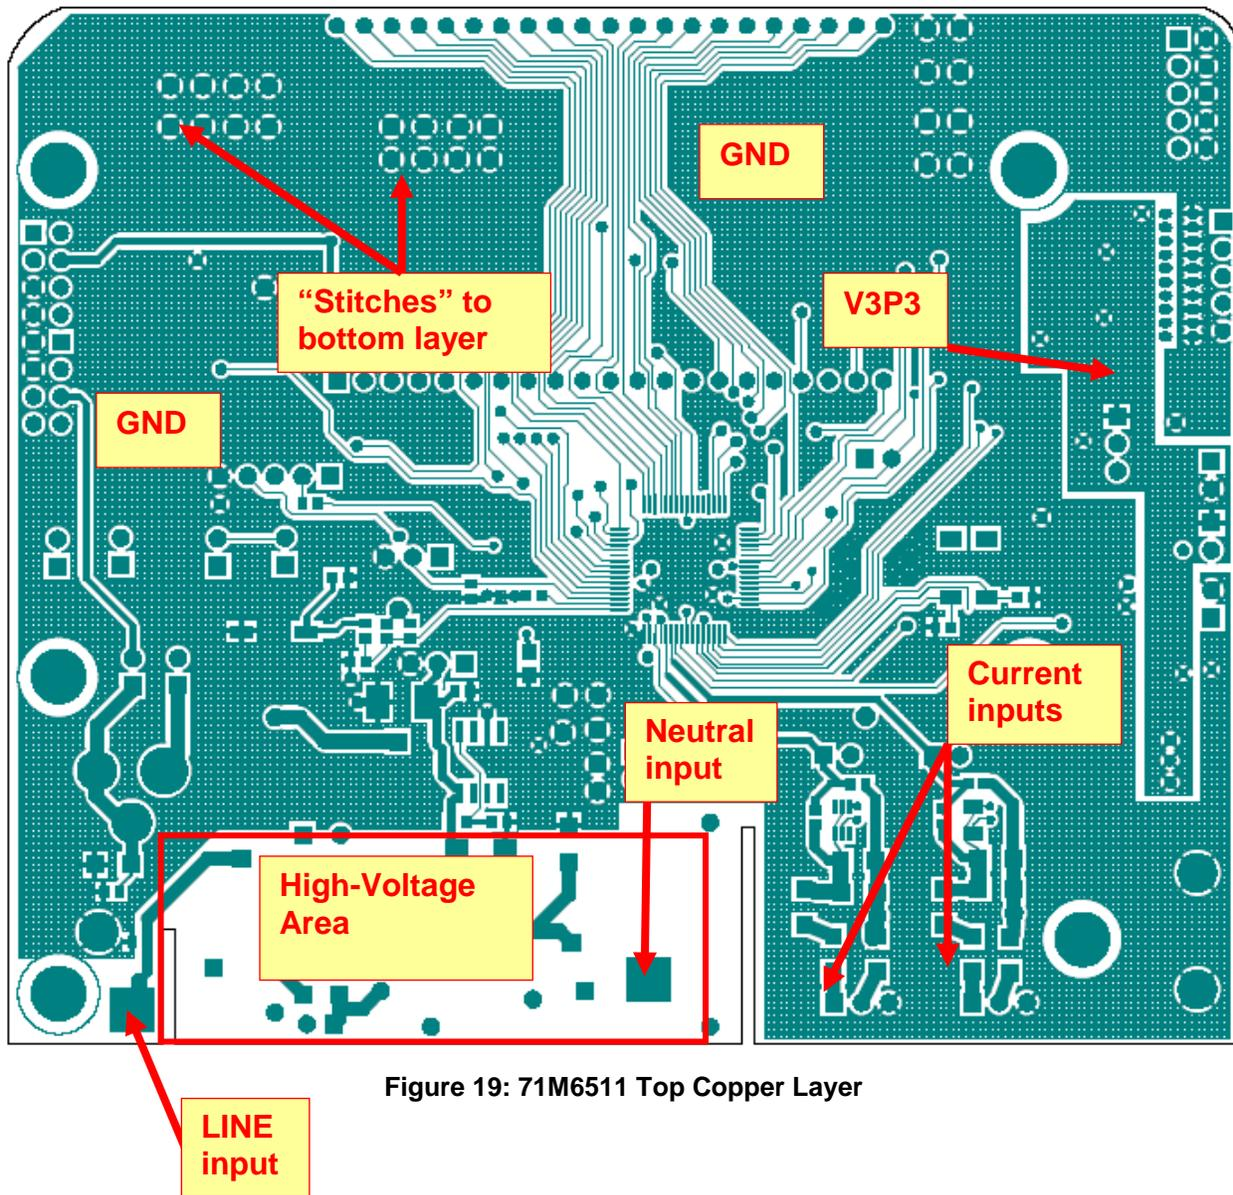
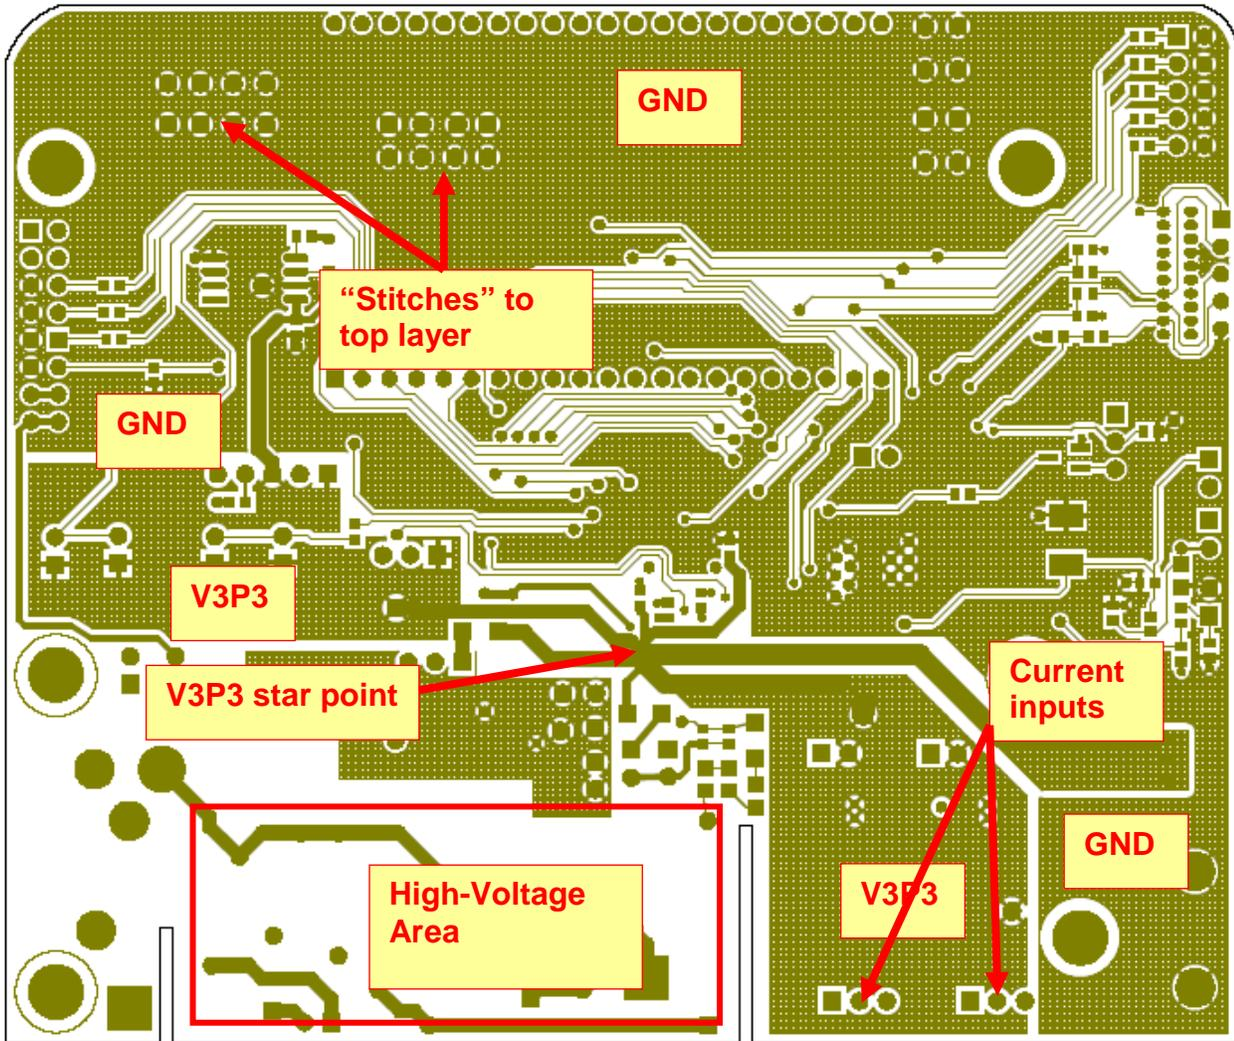

Figure 19: 71M6511 Top Copper Layer
Figure 20: 71M6511 Bottom Copper Layer
1. For a good example of a 71M6511 two-layer board, examine the 71M6511 2-Layer Demo Board (see Figure 19 and Figure 20).